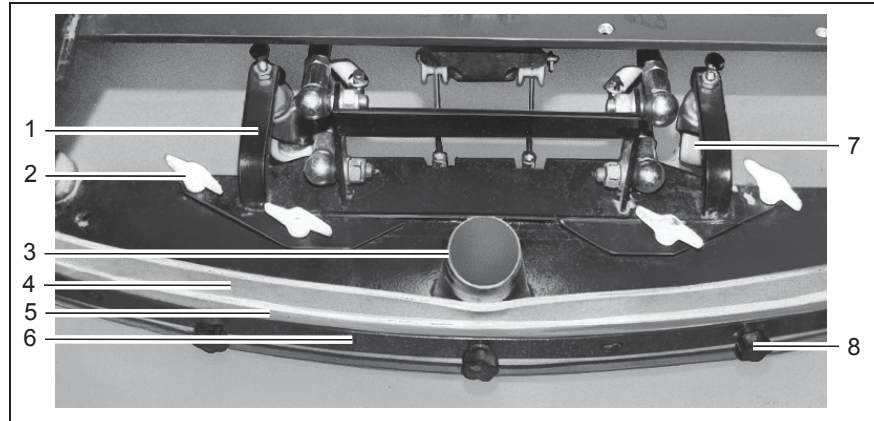

Fig. 38
5. Pull the suction hose from the connection nozzle (Fig. 38/3) of the squeegee.
6. Loosen the wing nuts (Fig. 38/2) on the holding attachment.
The sealing strips (Fig. 38/4) can be changed without the need for any tools:
2. Unscrew the knurled nuts (Fig. 38/8).
3. Remove the sealing strip, support strip and clamping rail (Fig. 38/4-6).
5. Tighten the knurled nuts (Fig. 38/8) evenly, starting from the center and working on alternate sides.
The squeegee stands with the sealing strips (Fig. 38/4) and support rollers (Fig. 38/7) on the ground. To increase the squeegee contact surface of the sealing strips (Fig. 38/4) on the floor, e.g. following wear of the sealing strips (Fig. 38/4), the support rollers (Fig. 38/7) must be set higher:
3. Adjust the support rollers (Fig. 38/7) on the right and left evenly:
5. Tighten the counternuts on each support roller (Fig. 38/7).